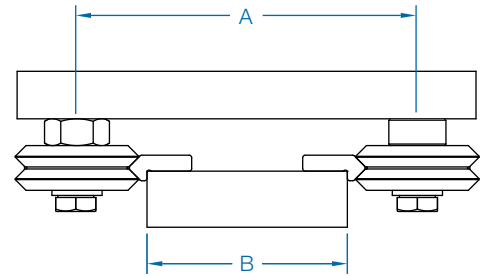

Figure 2 Inboard Mounting
- Inboard Mounting (See Figure 2): $A = B + X$